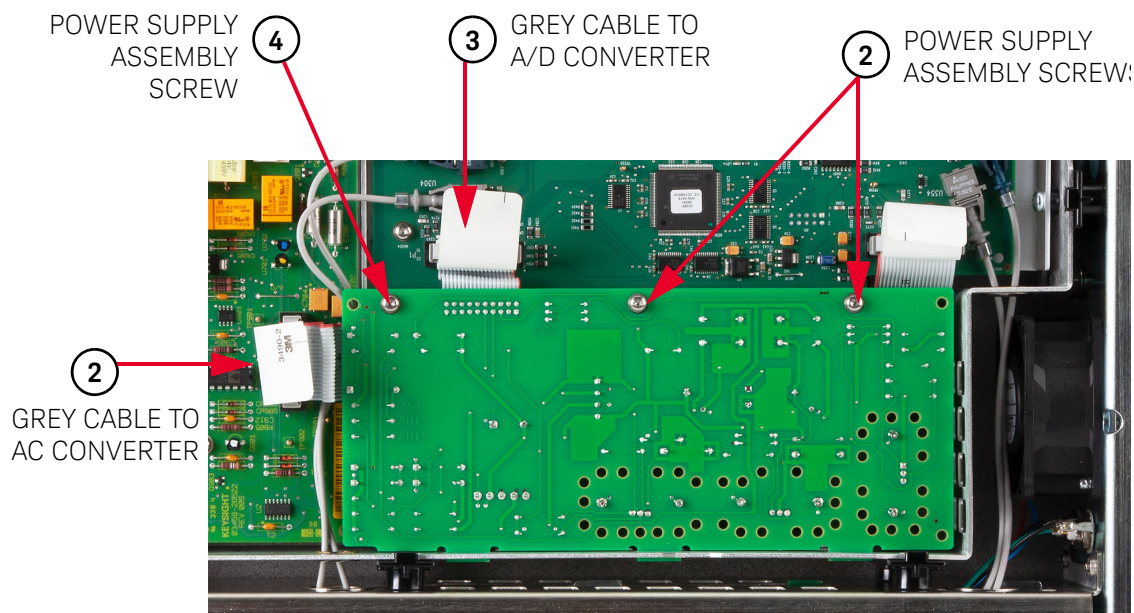

Figure 3-13 Inguard power supply assembly removal/installation
- 4 Refer to Figure 3-13 for the rest of this procedure.
- 2 Refer to **Figure 3-13**. Line up the Inguard Power Supply assembly with the slots in the chassis. Then push the board in.